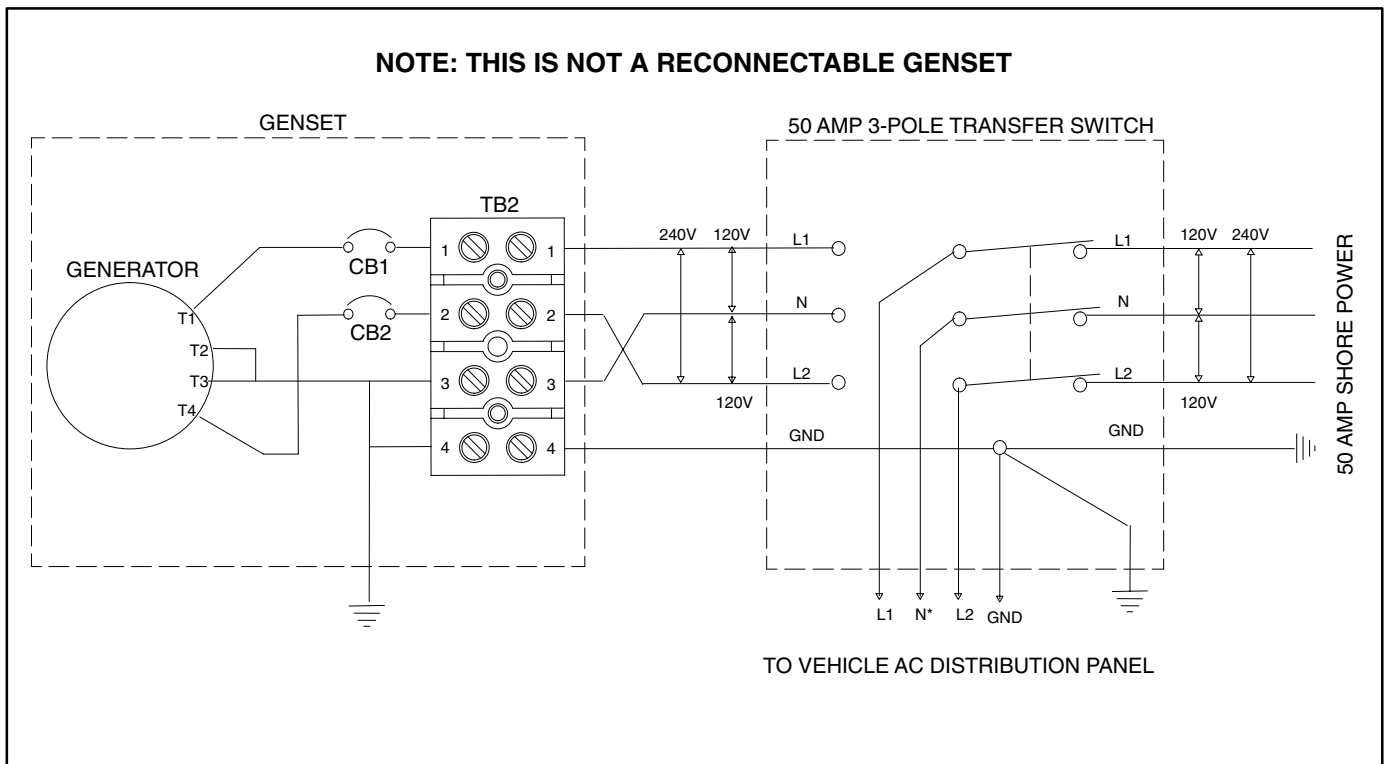

FIGURE 10. TYPICAL AC CONNECTIONS
8. Connect the grounding terminal (Terminal TB2-4, Figure 10) in accordance with applicable codes.
A vehicle with provisions for connecting utility power must have an approved device to keep the genset and utility from being interconnected. See Figure 10 for typical connections.